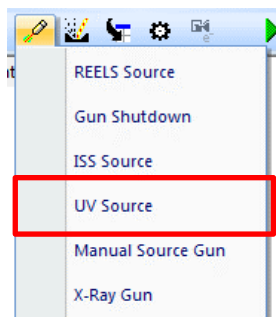
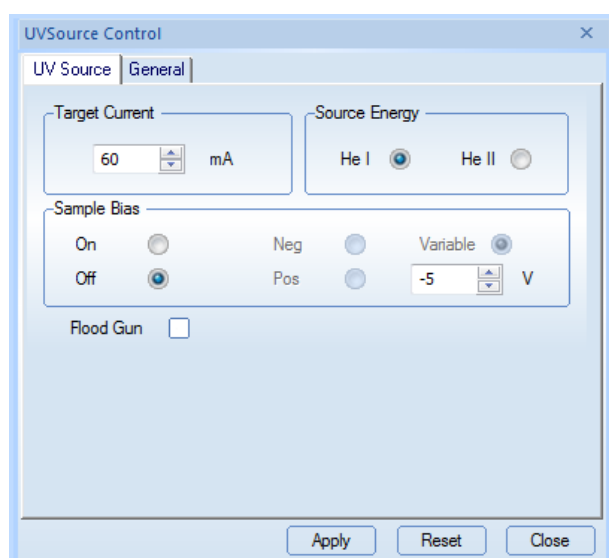

Figure 77: Sources icon
Figure 78: Sources Properties Page
2. Click on the Sources icon (**Figure 77**) and select **UV Source**. The source settings for **He I / He II** may be selected at the **Source Properties** page in the lower pane (**Figure 78**), together with enabling the flood gun for insulator analysis, and the sample bias if the sample bias stage is being used.